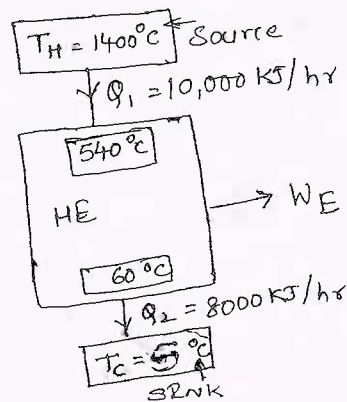

Fig. Q5 (c)
- c. A heat engine is shown in the Fig. Q5 (c) where 10000 KJ/hr of heat is supplied from source at 1400°C while the working fluid is at 540°C. 8000 KJ/hr of heat is rejected to a sink at temperature 5°C and working fluid is at 60°C. Calculate the following: